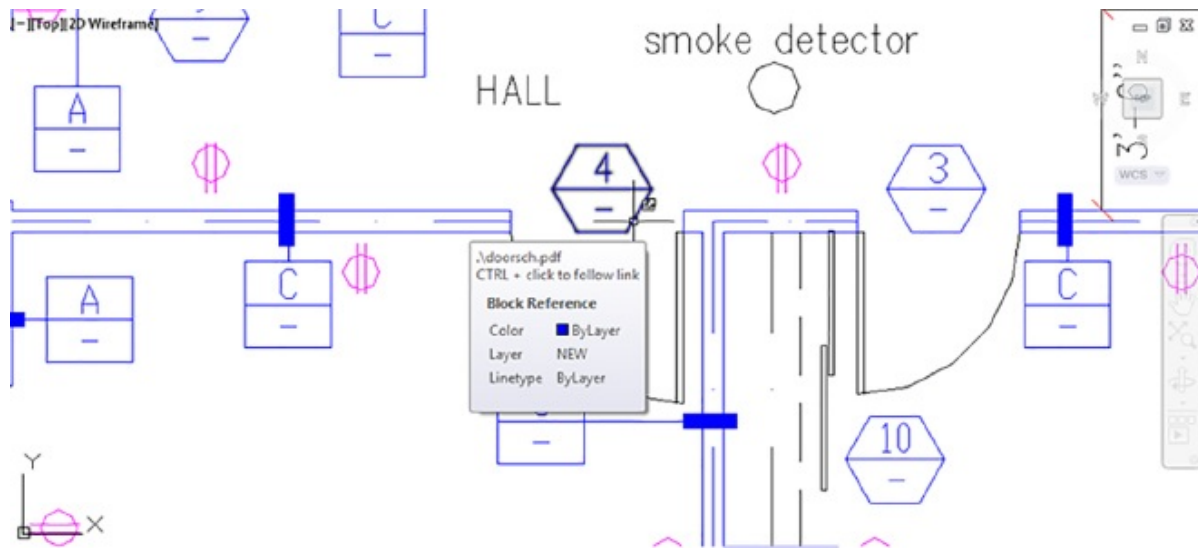

FIGURE 25.25 The hyperlink icon and tool tip
1. Move your cursor over the hexagonal door symbol. Notice that the cursor changes to the hyperlink icon when it's placed on the symbol. It also shows the name of the file to which the object is linked. This tells you that the object is linked to another document somewhere on your system, on your network, or on the Internet (see Figure 25.25).